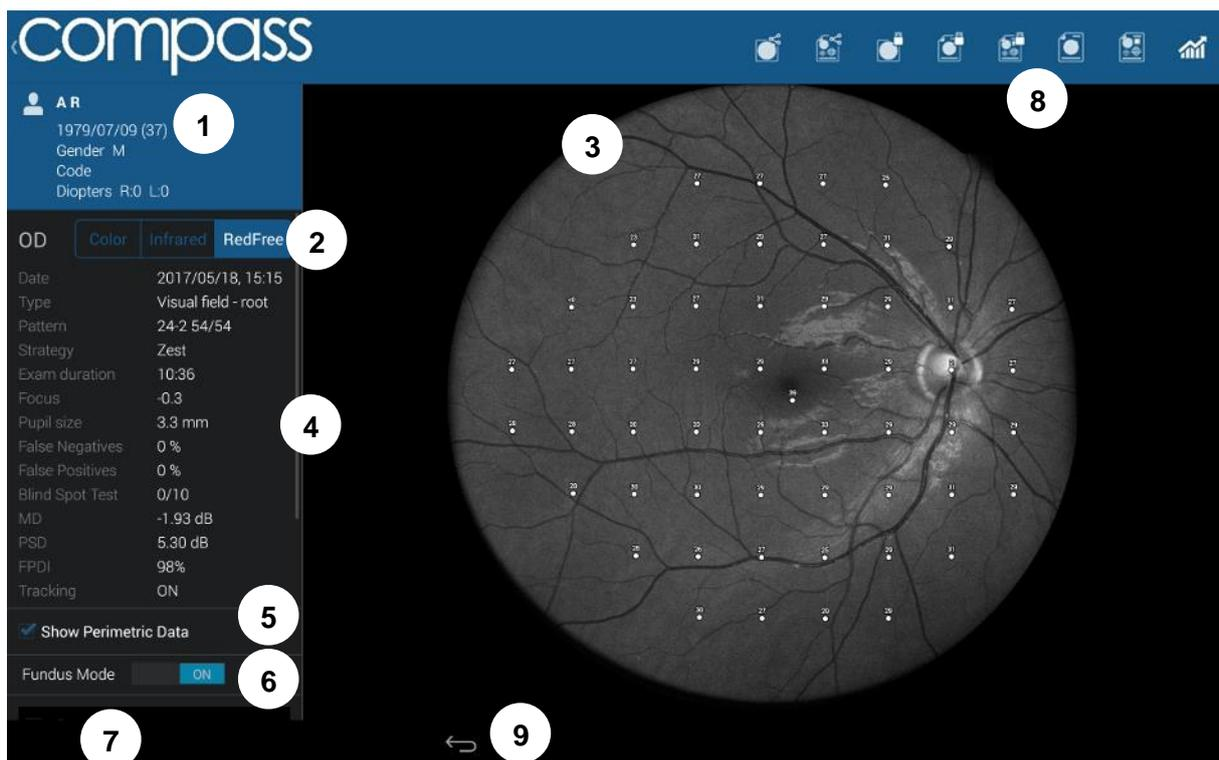

Fig. 34 – Exam review screen, red-free display modality
6. open Exam Review screen (see Fig. 34)
The **Exam Review** screen (Fig. 34) provides the following information and functions: